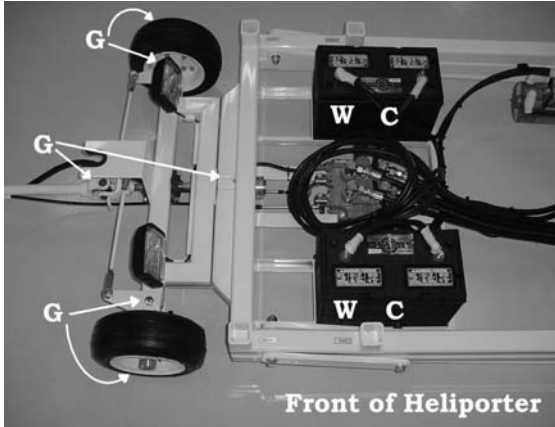

Fig. 2
Service Points: (See Figs. 2, 3, and 4)
1. Check the battery fluid levels monthly. Fill to proper levels if low. (Fig. 2).
8. Grease all zerks, a minimum of twice yearly. The wheel bearings should be greased more often, as usage and environmental conditions dictate. (Fig. 2 & 4).